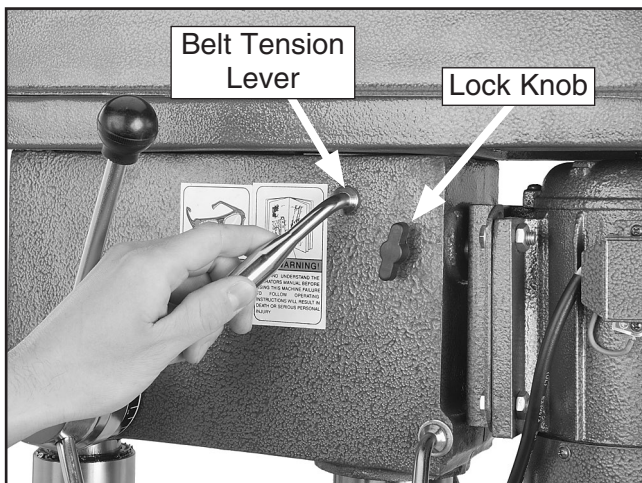

Figure 14. Using the belt tension lever to tighten/loosen the belts.
1. Loosen the lock knobs on both sides (**Figure 14**), tighten the V-belts by pulling and holding tension on the belt tension lever, then tighten the lock knobs.